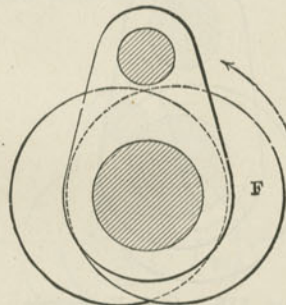

Fig. 183. Two Eccentrics, Lapless Valve, with rocker.
A. Each should be  $90^\circ$  back of the crank pin (in the opposite direction from that which it is required to run the engine). (See Fig. 183, in which the forward eccentric is marked F.)